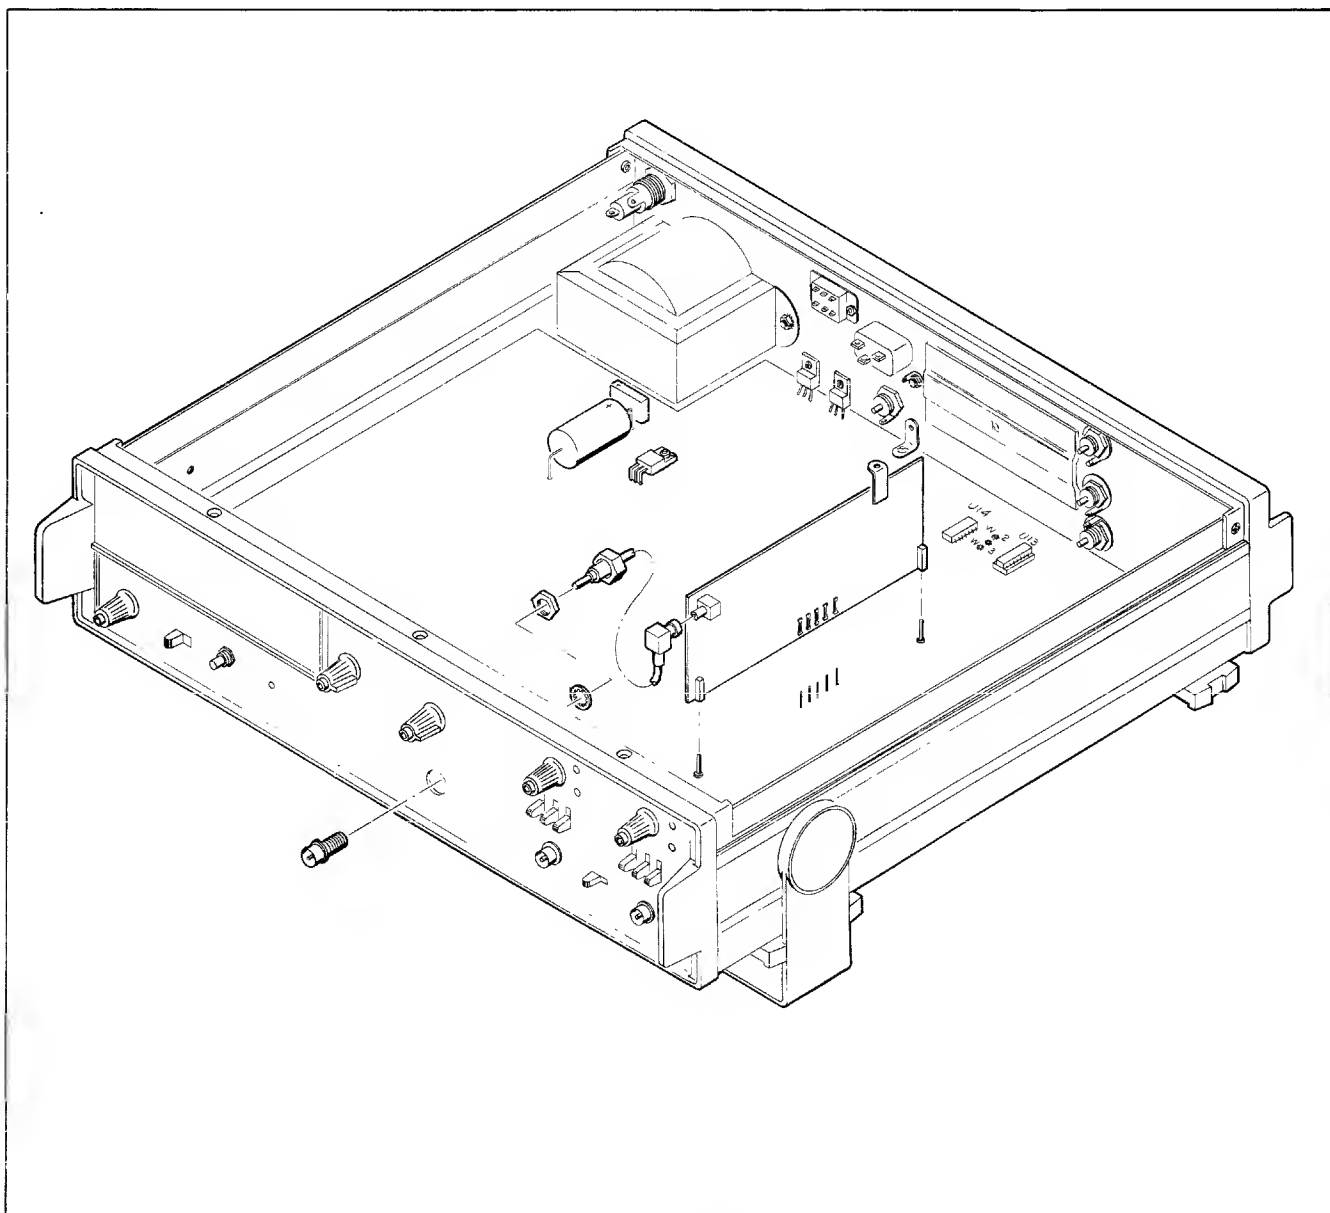

Figure 607-2. -07 Option, 520 MHz Prescaler
-07	520 MHZ PRESCALER, OPTION -07 FIGURE 607-2